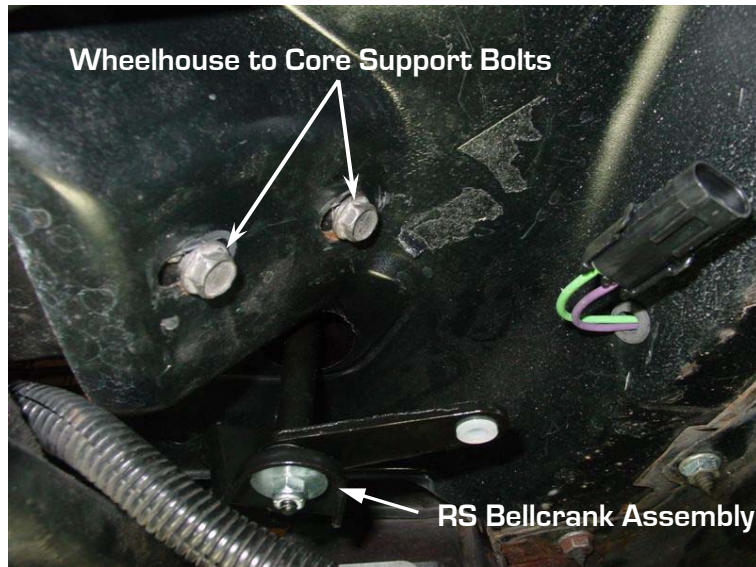

Figure 9 – Location of Core Support Bolts
4. Locate the two bolts on the passenger side that attach the inner wheelhouse to the core support underneath the front fender area. Figure 9 on the next page shows the location of the bolts.